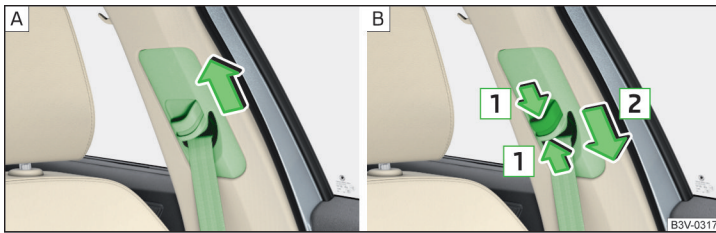

Fig. 18 Seat belt height adjusters for front seats
- Push the seat belt guide loop **upwards** in the direction of arrow » Fig. 18 - [A].
- **or**: push together the mechanism in the direction of arrow **1** and push the return pulley **downwards** in the direction of arrow **2** » Fig. 18 - [B].